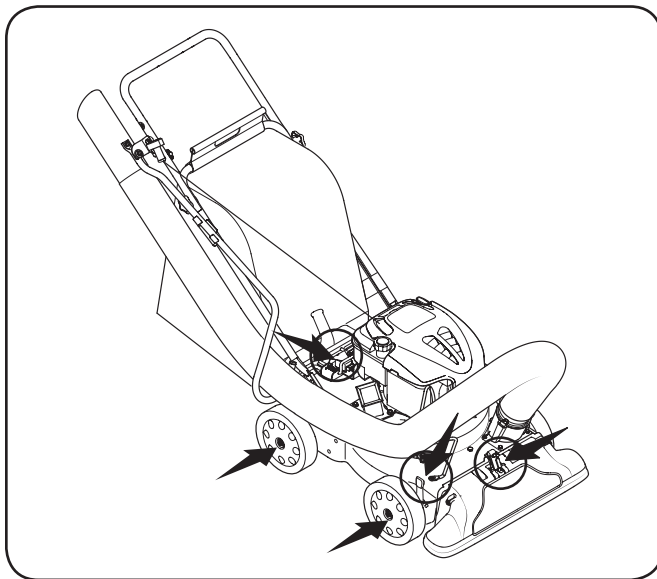

Figure 6-1
4. Lubricate the nozzle/hose vac lever on top of the nozzle once a season with light oil. See Figure 6-1.